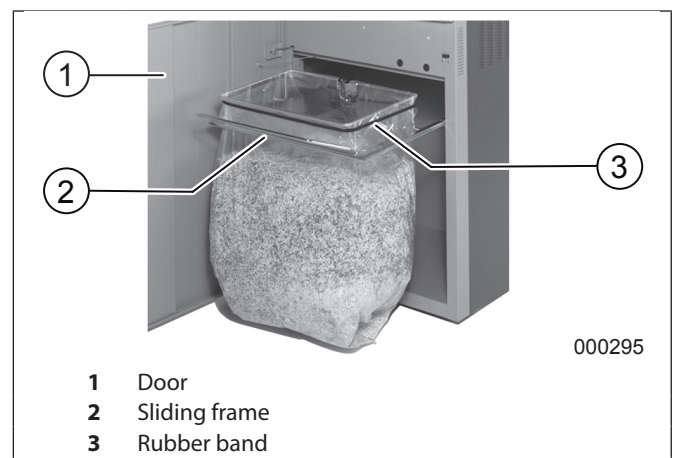

fig. 5 Emptying the collecting bag
1. Open the door and take out the sliding frame (fig. 5/2) with the collecting bag.
2. Remove the rubber band (fig. 5/3), take out the full bag and dispose of contents.